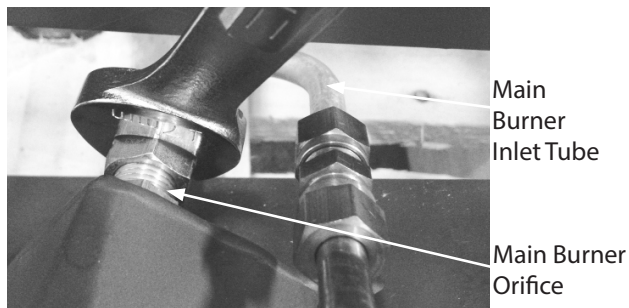

Figure 5.
Step 6: Using a 17mm wrench, remove the main burner inlet tube from the main burner orifice. See Figure 5.